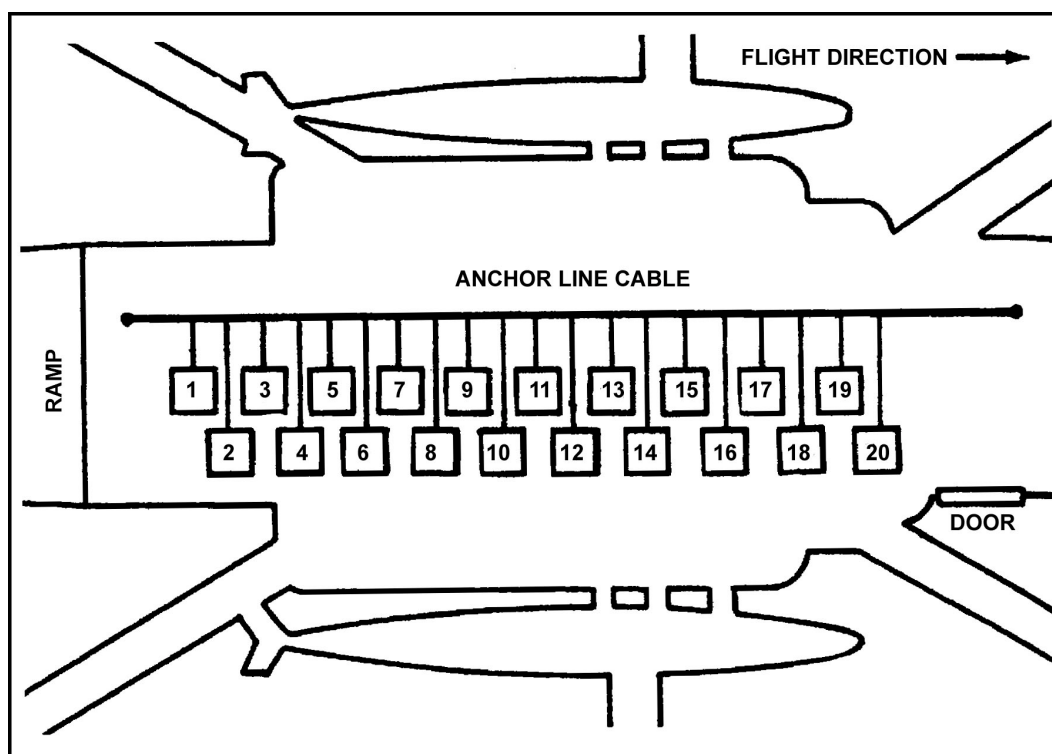

Figure 18-4. CH-53 static line routing.
(3) *PORT SIDE PERSONNEL, HOOK UP.* Odd-numbered parachutists kneel and hook up (with the open portion of the static line snap hook facing inboard) and return to the standing position (Figure 18-4).